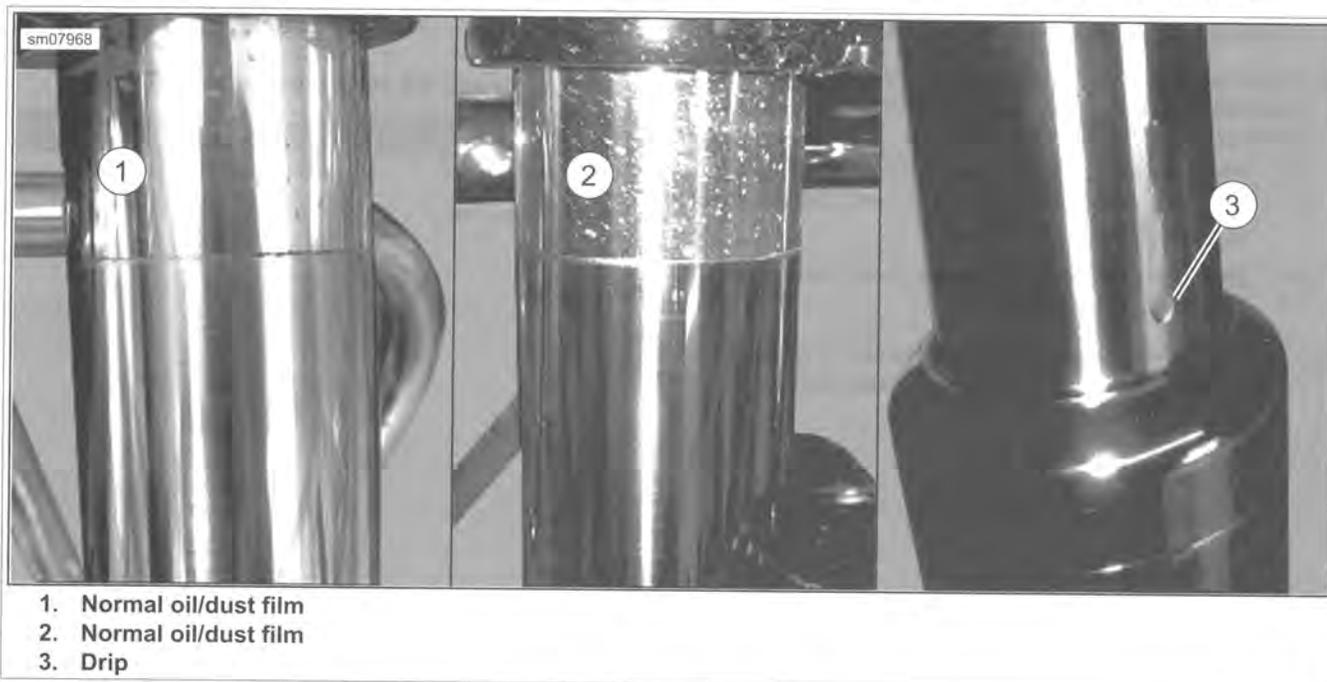

Figure 2-61. Front Forks
4. See Figure 2-61. Check fork slider tube for oil.
- b. If an oil run or drip (3) is present, perform procedure two or three more times to confirm oil leak.